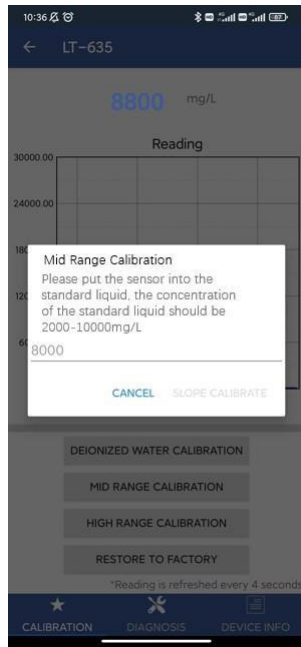

Figure 11
**Mid-Range Calibration Process** – After completing Deionized Water Calibration, remove and insert the LT-635 sensor into a clean and dry beaker and inject the midpoint calibration solution. **\*NOTE\*** The midpoint calibration solution can be process water of the application itself, with a verified Total Suspended Solids (TSS) value in the range of 2,000 to 10,000 mg/L. The recommended method of TSS verification for the calibration solution being used is Gravimetric Total Suspended Solids determination. Wait until the reading stabilizes and then click the Midpoint Calibration button to calibrate the midpoint, as shown in Figure 11. If the calibration is successful, the interface will return a message "Calibration Succeeded". If the calibration has failed, the interface will return a message "Calibration Failed" and the user must repeat the process until calibration success is achieved.